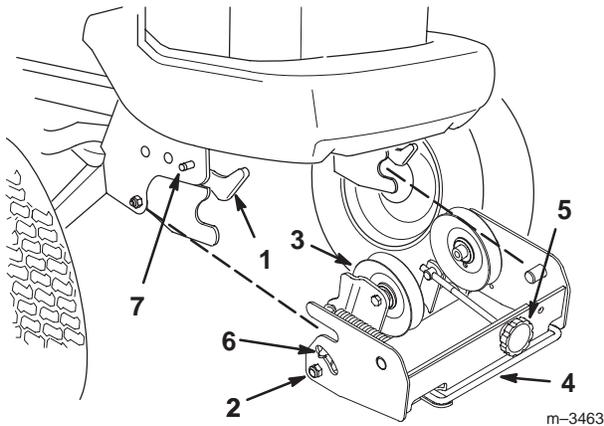

Figure 4
- Attach the pulley box if it is not already on the tractor. Make sure the latches on the tractor's front Attach-A-Matic™ are open (Fig. 4). Then slide the pulley box into the Attach-A-Matic™ latches and seat it. Close the latches.